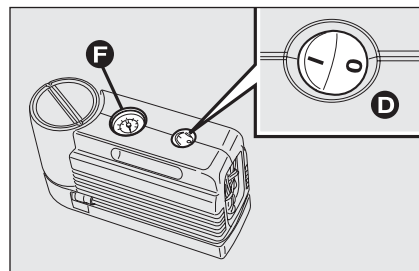
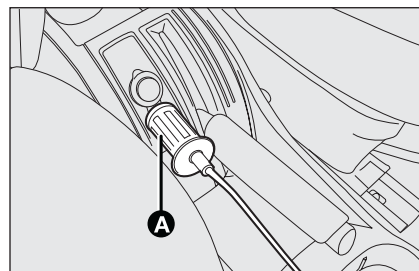

fig. 6
fig. 7
- make sure that the switch **D**-fig. 6 of the compressor is in position **0** (off), start the engine, insert plug **A**-fig. 7 into the cigar lighter (or 12V socket) and operate the compressor by taking the switch **D** to position **I** (on). Inflate the tyre to the pressure specified in the "Inflation pressure" paragraph, "Technical Specifications" chapter.
For a more accurate reading, check pressure gauge **F-fig. 6** with the compressor off;